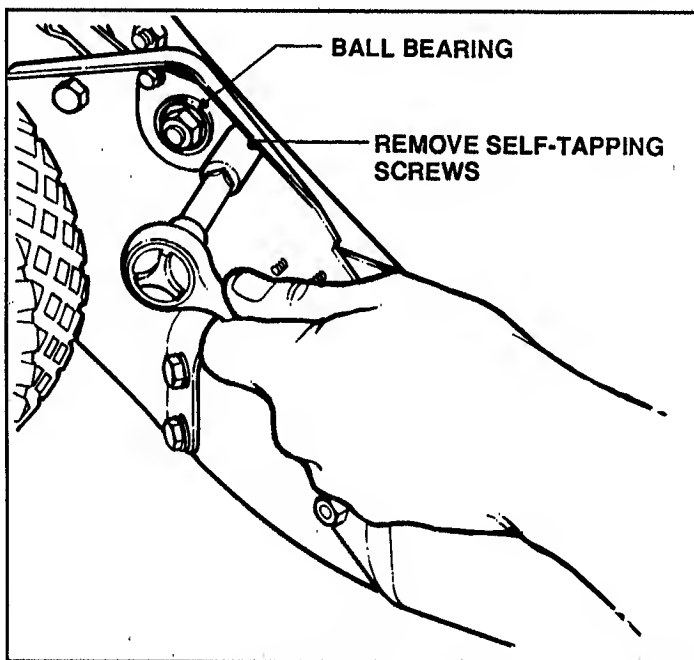

FIGURE 2.17
- (b) Remove the two self-tapping screws from holder half. See Figure 2.17.